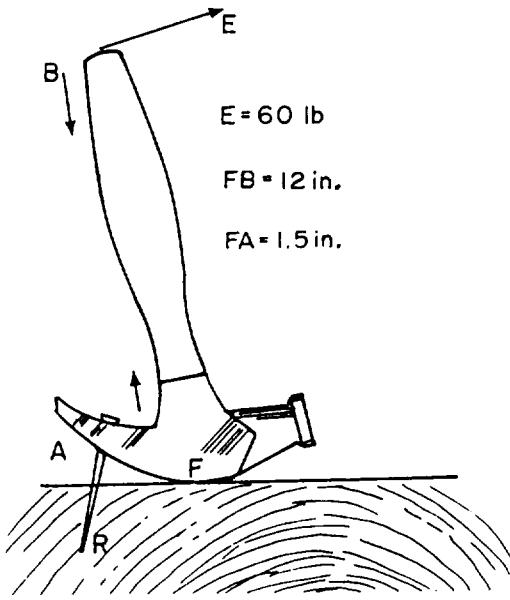

Figure 1F
- 1-21. Refer to figure 1F. If a person exerts at point B a pull of 60 pounds on the claw hammer shown, what is the resistance that the nail offers?